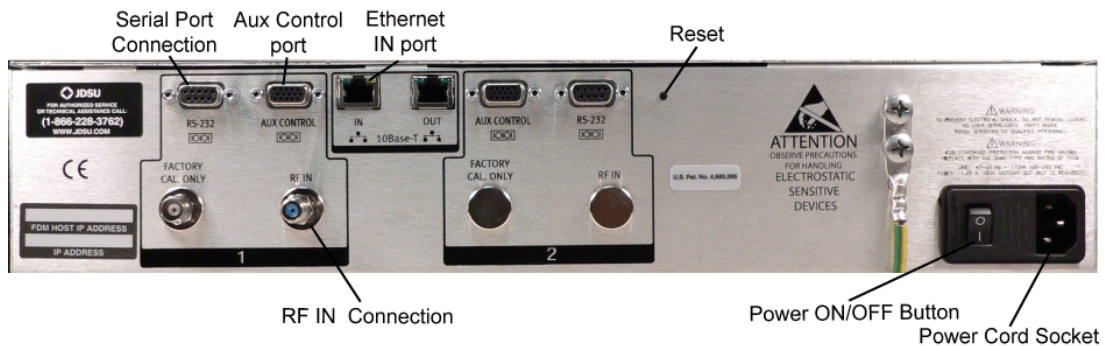

Figure 8 RSAM rear panel
- 5 Connect the other end of the **75 Ohm coaxial cable** to the RSAM (Figure 8) **RF In**.